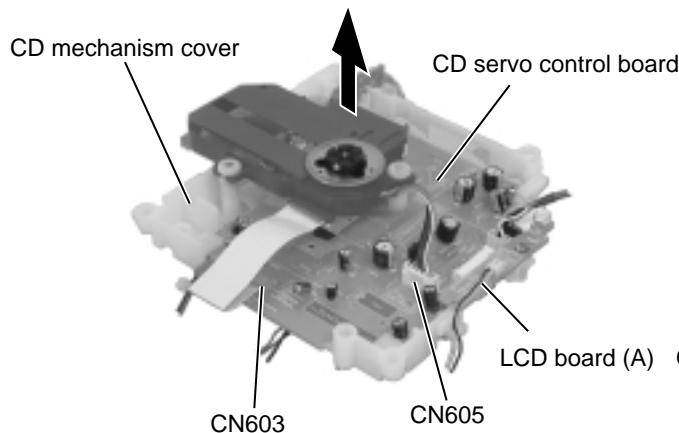

Fig.21
■ Removing the LED board (A) (See Fig.21)
- Remove the screw O attaching the LED board (A).